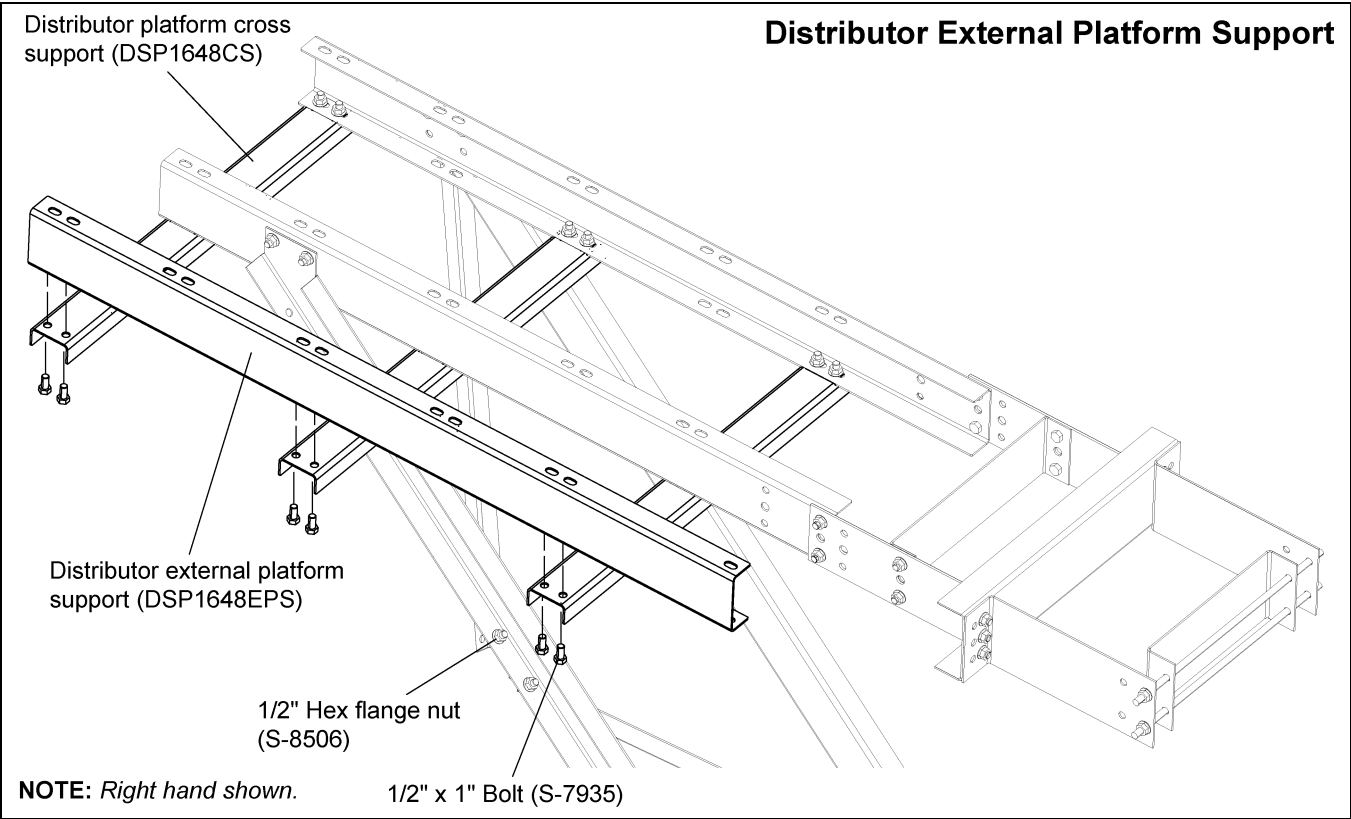

Figure 10F Distributor External Platform Support
3. Assemble the external platform support (DSP1648EPS) to the end of the three (3) cross supports using six (6) 1/2" x 1" bolts and nuts. *(See Figure 10F on Page 70.)*